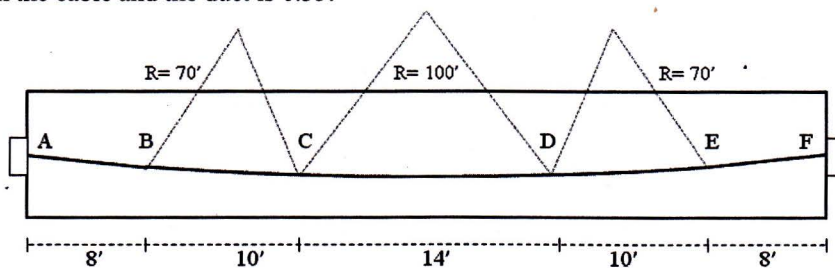

Figure 5
- 4.a) Make a preliminary design for the prestressed concrete beam to resist a total moment of 435 kN-m. Assume the depth of the beam is 920 mm. The effective prestress of tendon is 860 MPa, allowable stress for concrete under working load is -11 MPa. Given: $M_G = 285 \text{ kN-m}$. (10)
- b) Make final design for the preliminary section obtained in question 4(a) considering no tension in concrete. Given: $f_t = -11 \text{ MPa}$; $f_b = -12.5 \text{ MPa}$; $f_o = 1035 \text{ MPa}$. (15)
- 5.a) A post tensioned concrete beam has curved tendons which were tensioned from left end, shown in Figure 5. Calculate the percentage loss of pre-stress due to friction, from one end to other end (A to F) of the beam. The average length effect is 0.00061 per feet and coefficient of friction between the cable and the duct is 0.35. (15)